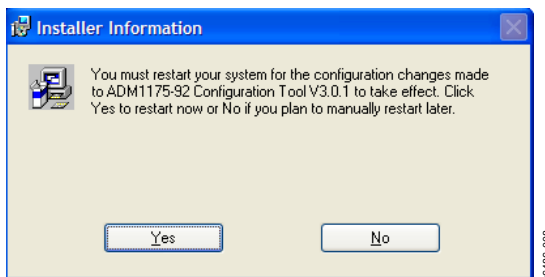

Figure 8. Installation Restart Reminder
- Click **Finish**. The message shown in Figure 8 appears, indicating that you must restart the system for the configuration changes to take effect. Click **Yes** to restart the PC immediately; click **No** to manually restart later.